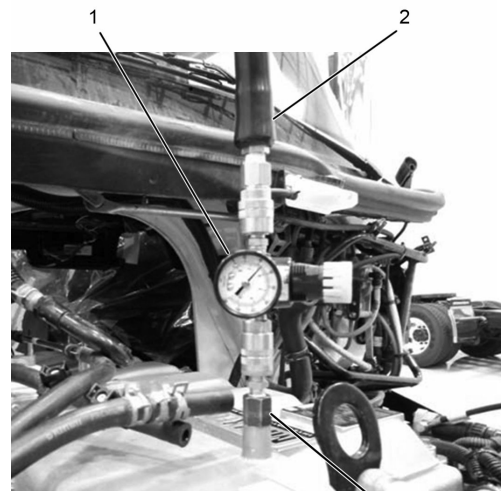

Figure 20
3. Remove shop air hose (Figure 20, Item 2), regulator assembly (Figure 20, Item 1), and EGR cooler plug air inlet (Figure 20, Item 3).